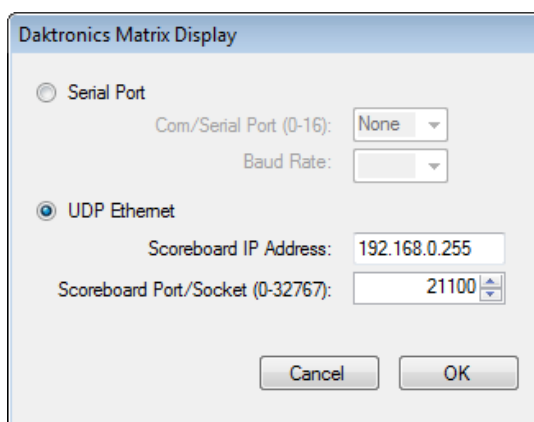

Figure 26: Matrix -Results Comm Options
4. Click on **UDP Ethernet**, and set up the options as follows (**Figure 26**).